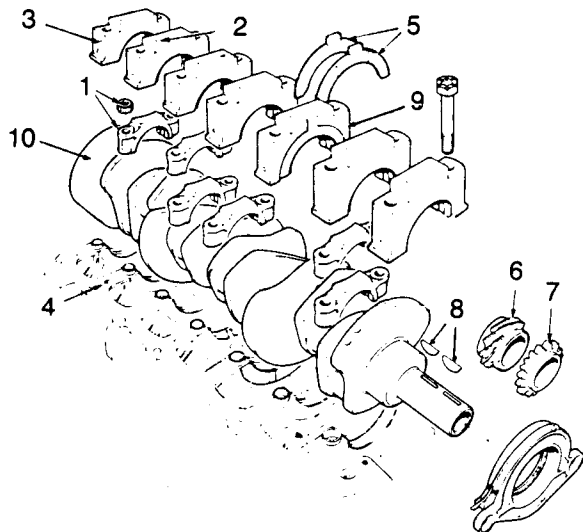

Fig B4.61
- (1) Refer to Fig B4.61. Remove the connecting rod caps (1) maintaining them in their correct order for replacement.
- (2) Remove the main bearing caps (2) noting the location stamping. The caps are number stamped on the LH side (3) and corresponding numbers are stamped on the LH side main bearing webs adjacent to the cap joint (4) to ensure correct replacement.
- (3) Lift the crankshaft from the engine and recover the thrust washers (5) from both sides of No 3 main bearing housing (9).
- (4) Remove the gear (6), sprocket (7) and keys (8) as necessary.
4. Note that Fig B4.61 still applies. To replace the crankshaft: